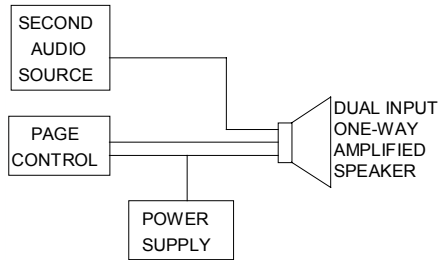

Figure 1. Page System Block Diagram
- Power supply sized to provide power to operate the amplified speaker assemblies and page control. (See Figure 1 for Page System Block Diagram)